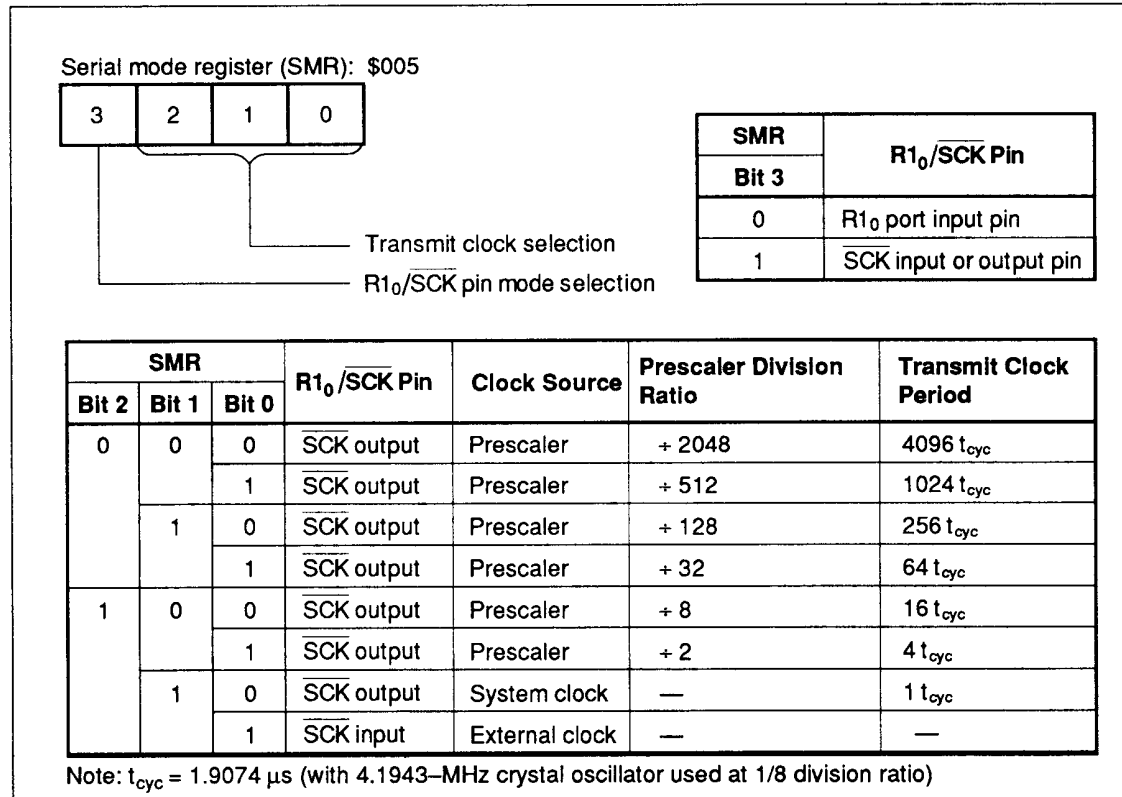

Figure 26 Serial Mode Register
**Serial Mode Register (SMR: \$005):** Four-bit write-only register that controls the  $R1_0/\overline{SCK}$  pin, transmit clock, and prescaler division ratio as shown in figure 26. Writing to this register initializes the serial interface.